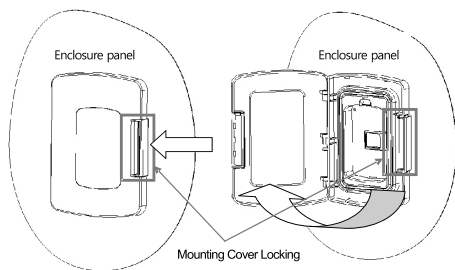

Figure 3. Mounting Cover Open/Close
5. Install the Keypad Mounting Option to the enclosure panel as show in Figure 3.